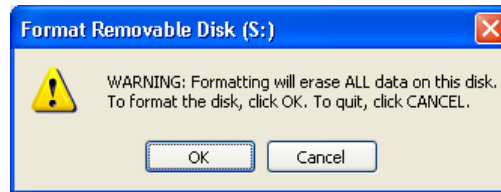

Figure 19 - Format Warning Dialog
4. Select the drive to format (if multiple memory cards are present) and enter a volume label to identify the card, if required. Click **OK** to start the formatting process. The Format Warning dialog (Figure 19) will then be displayed: